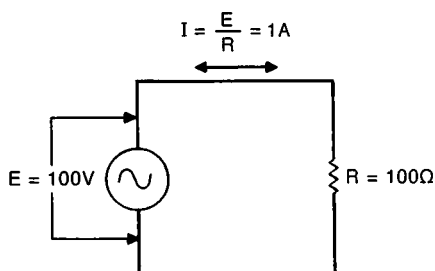

Figure 2-23
Consider a typical circuit that has an AC voltage source with an effective value of 100 volts and a resistance of 100 ohms, as shown in Figure 2-23. According to Ohm's Law, the effective value of current (I) is equal to: